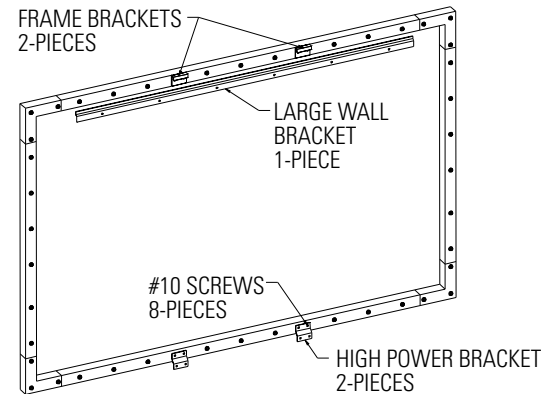

FIGURE 9
1. Use the supplied #10 screws to attach two frame brackets and two High Power brackets to the back of the frame as shown in Figure 9.